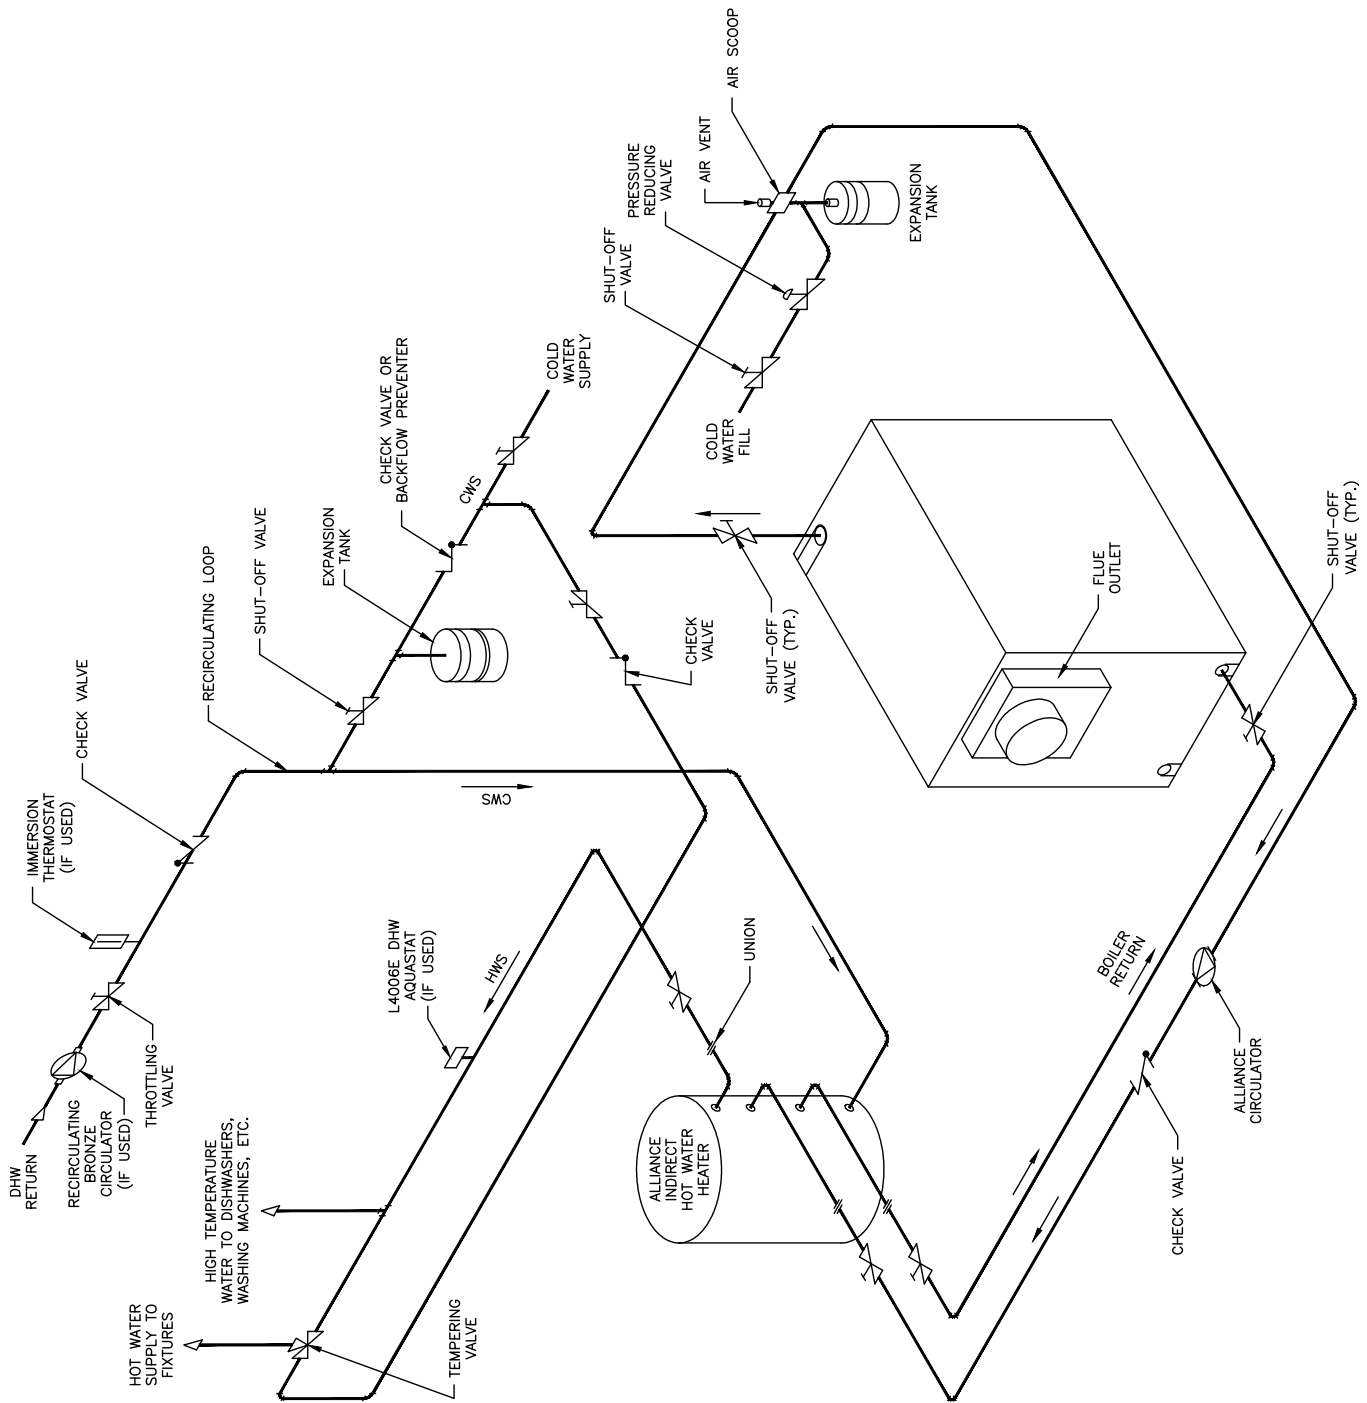

Figure 42b: DHW Generation with Indirect Water Heater
3. Hot Water Boiler/Indirect Water Heater - The use of indirect water heaters for domestic hot water generation is common and somewhat advantageous over tankless coils alone, since they also provide DHW storage. A tempering valve and recirculating pump are again recommended for a dual temperature system, to provide a constant temperature to the fixtures without waiting for cooler water to warm up. Figure 42b shows a typical indirect heater piping application with no space heating. Indirect pump flow rates are calculated based on a $20^{\circ}\text{F}\Delta\text{T}$.